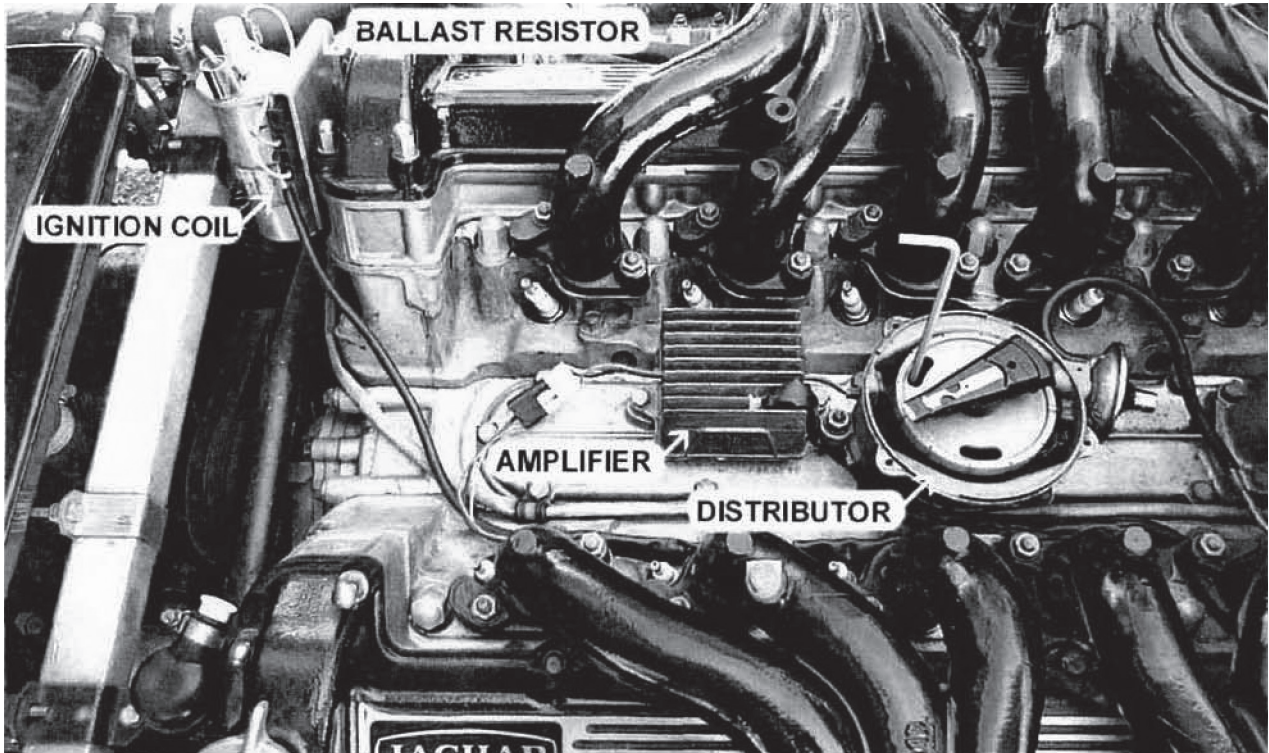

Figure 1
64. Fasten the replacement amplifier to the mounting location in front of the distributor as in figures 1 and 3. On some cars the amplifier may be attached to a bracket that positions it at ninety degrees to the orientation shown in the photographs.